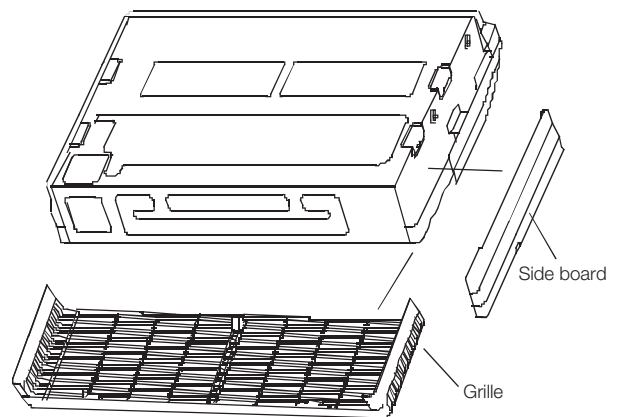

Fig. 4-10
- Remove the side board and the grille.(Refer to Fig. 4-10)